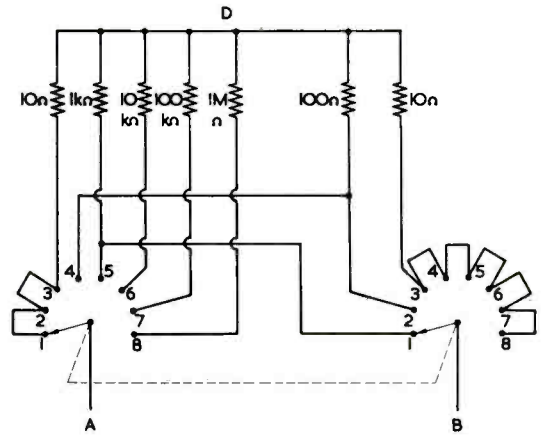

Fig. 6. A switching circuit which provides the ratio arms for a Wheatstone bridge with the minimum of resistors
Fig. 6 (a). The case and back plate of the transmitter. The case is a standard 6 x 4 x 2 1/2 in chassis to which angle brackets are fitted (not shown here). The back plate is secured to these brackets
(7). Make the transmitter case and metal-work, as shown in Fig. 6(a). On the prototype, a standard 6 x 4 x 2 1/2 in chassis, with angled corner brackets, was used as a case. The aerial specified, which screws into the holder fitted in the hole at the top of the case, must be used. The two batteries are held in place by the sponge-rubber faced bracket, which, in turn, is held in place by self-tapping
screws. The Veroboard panel is held in place on the two small, angled brackets of Fig. 6(c), which, in turn, are secured to the side of the case by self tapping screws. To prevent the underside of the Veroboard panel short-circuiting against the angle brackets, a pair of rubber grommets are glued to the brackets with Bostik, and act as shock absorbing stand-off insulators. If the meter jack is to be fitted, short circuits can be prevented between the jack and the case by sticking a few pieces of Fablon or a similar self-adhesive insulating material to the inside of the case at the "danger" spots. The small push-button On-Off switch,
which *must* be of the type specified, is mounted to the inside front of the case. The case is "earthed" to the positive supply line via an earth tag bolted to the battery securing bracket. See Fig. 6(b). The back-plate is secured to the case by means of self-tapping screws, which screw into the angled corner brackets on the case.
It will be noticed from the Table that the only time that two resistors of the same value are in circuit together is on Range 3, when two 10Ω resistors are used. It is therefore possible to arrange the switching of the ratio arms in such a way that only seven resistors need be used to cover the complete range of the bridge. Fig. 6 shows the switching layout that can be employed to achieve this. It can be seen that one 8-way 2-pole switch is used, but in practice this will probably consist of a ten way switch suitably modified. One end of each resistor is joined to a common point or bar. The